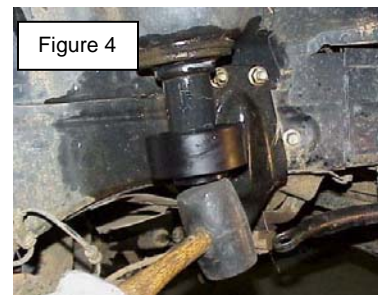

Figure 4
10. If doing a 1" lift, remove the factory rubber isolator and replace with new 1 3/4" spacers. If doing a 1 3/4" lift, leave the factory isolators **or** replace with part number KJ09108 (3/4" spacers) then add new 1 3/4" spacers. If doing a 2 3/4" lift, remove the factory isolators and put 2 of the 1 3/4" spacers on one side. See figure 4.
7. Remove the bump stop mounting cup. ZJ & TJ only. See figure 4.